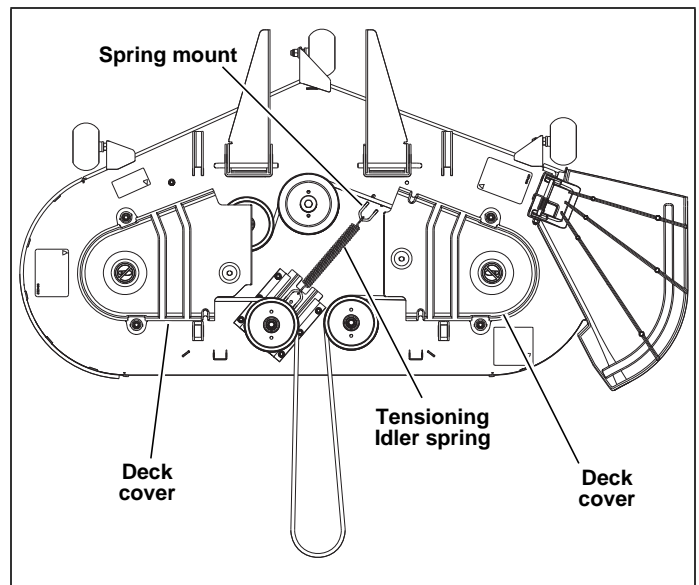

Figure 4-11
3. Remove the deck covers. Figure 4-11